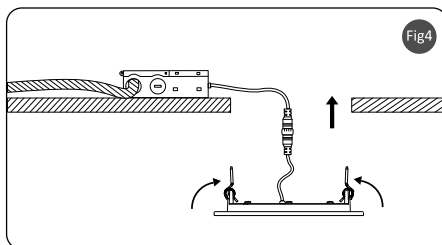

Fig4
**4.** Push the spring-loaded clips into the mounting hole upwards and insert the fixture into it. Release the clips and the fixture will be pulled flush to the ceiling, see Fig4.